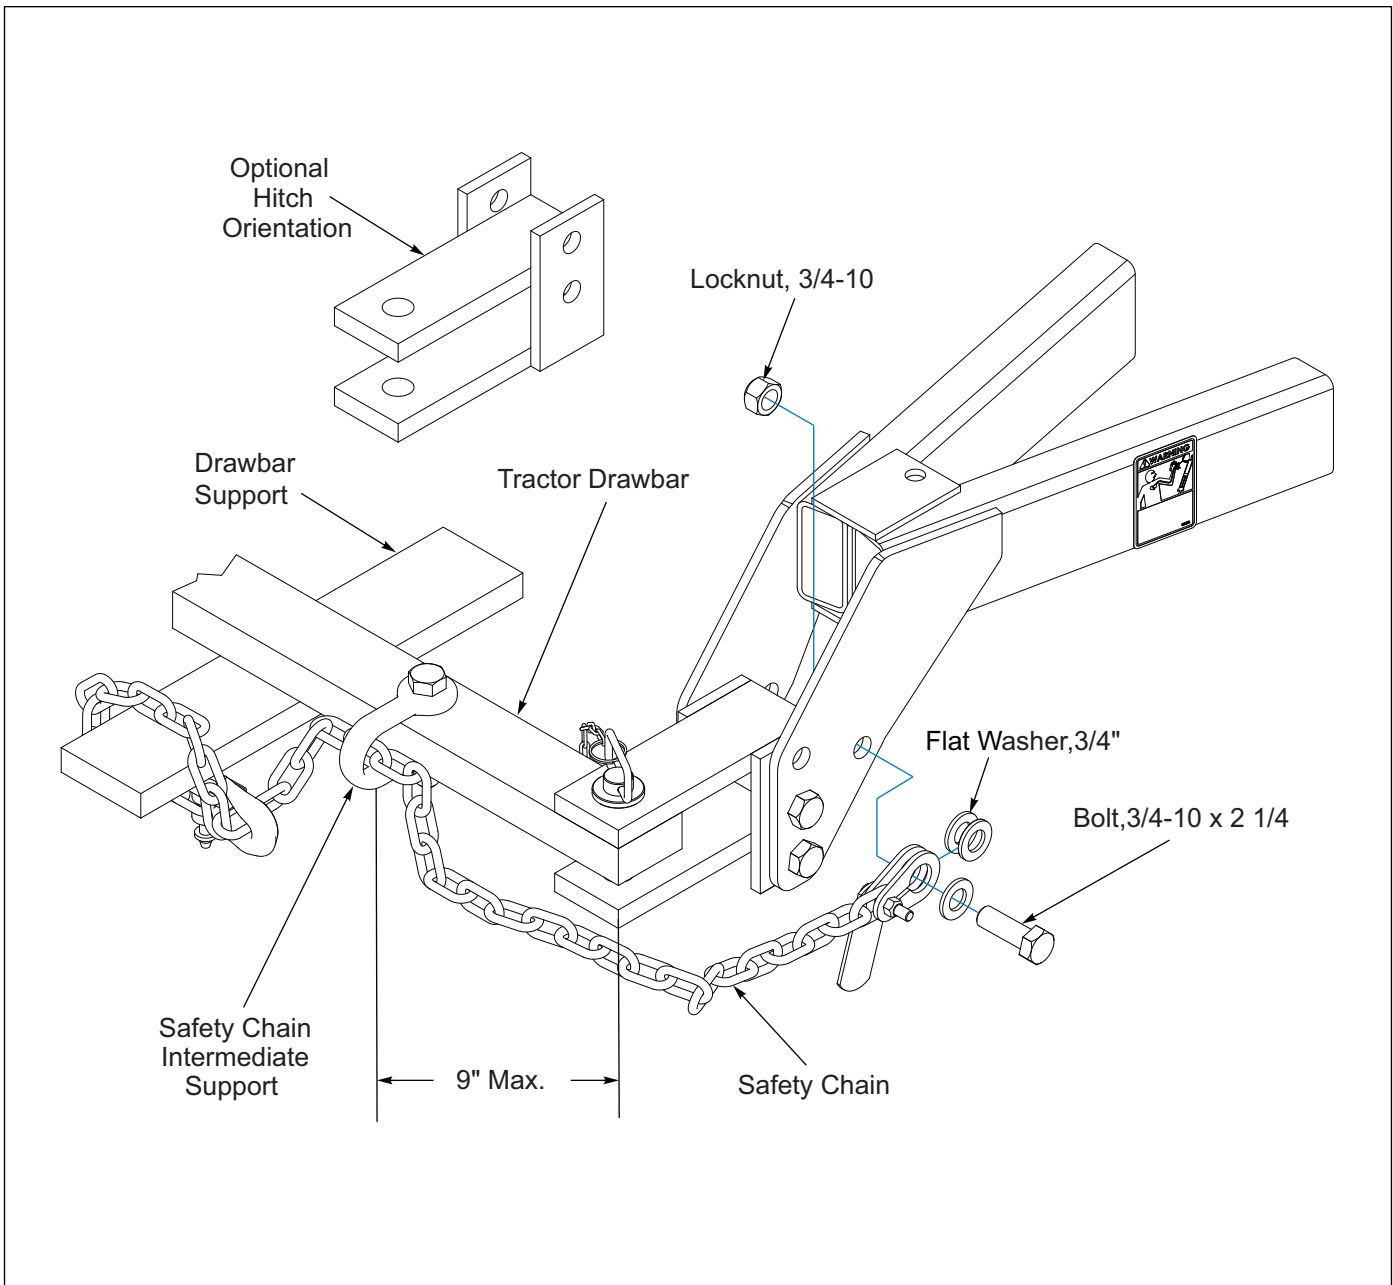

Figure 1-2: Safety Chain Hook-up
3. Attach the chain to the Tractor Drawbar Support or specified anchor location. Never attach the chain to an intermediate support. Allow only enough slack in the chain to permit turning. The distance from Hitch Pin to attachment point or intermediate support point should not exceed 9 inches. If the distance from the Drawbar Pin to either the front or rear attachment point exceeds 9 inches, intermediate chain is required. **See Figure 1-2.**
4. Machines with a 3 hole drawbar, **See Figure 1-2.**